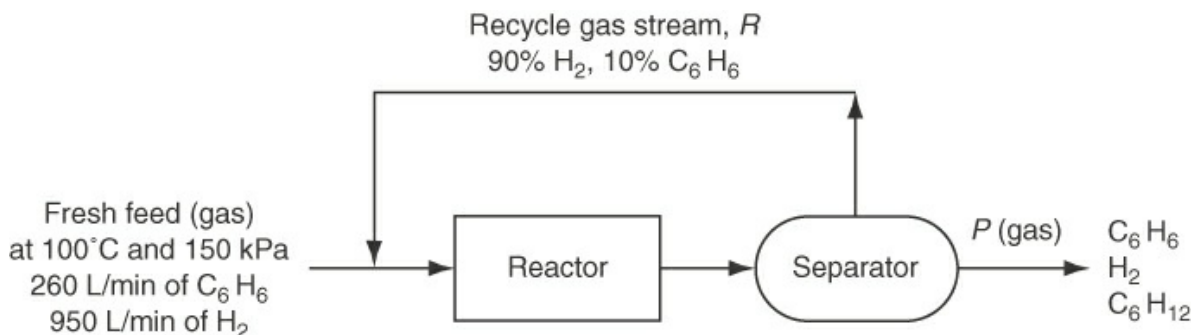

Figure P6.1.52
***6.1.52 Benzene (C_6H_6) is converted to cyclohexane (C_6H_{12}) by direct reaction with H_2 . The fresh feed to the process is 260 L/min of C_6H_6 plus 950 L/min of H_2 at $100^\circ C$ and 150 kPa. The single-pass conversion of H_2 in the reactor is 48% while the overall conversion of H_2 in the process is 75%. The recycle stream contains 90% H_2 and the remainder benzene (no cyclohexane). See Figure P6.1.52.